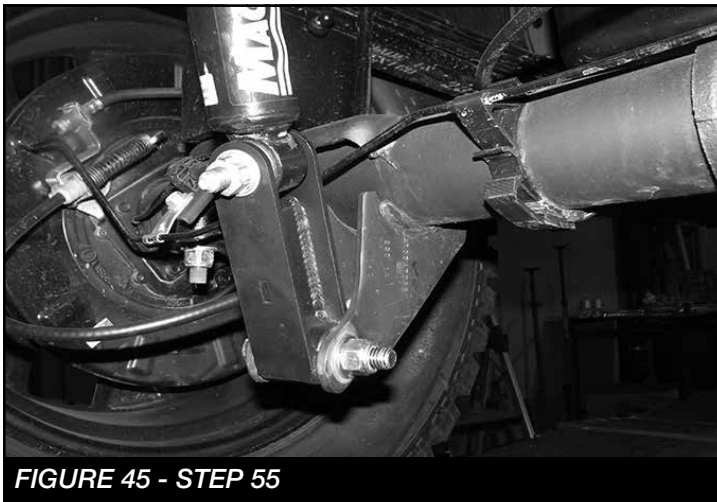

FIGURE 45 - STEP 55
55. Reinstall the shocks onto the lower axle mounts using FT20673BK Rear Shock Bracket Torque to 100 ft-lbs. **SEE FIGURE 45**